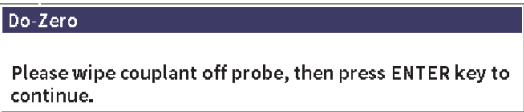

Figure 11-36 Do-Zero dialog box
10. Press ESC twice to dismiss the **Transducer Setup** page and display the **Do-Zero** dialog box (see Figure 11-36 on page 216).